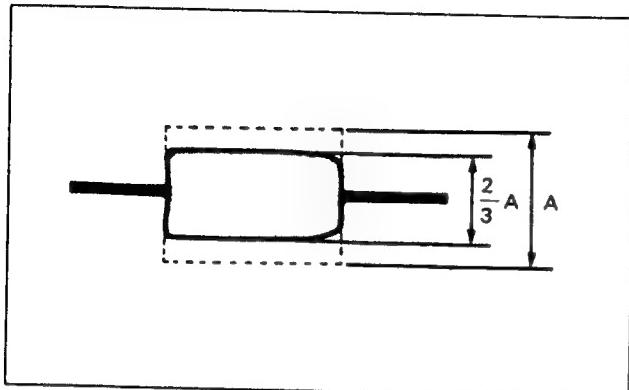

Fig. 2-39.
- 1) Run the tracking adjustment tape ; switch the SHIFT TRACK on and the RF wave form becomes about 2/3 of its maximum amplitude (see Fig.2-39).
- 4) Rotate TG4 nut 90° clockwise. Repeat step 3). Repeat steps 3) and 4) until a correct waveform is obtained. Note that the tracking waveform (Fig. 2-39) remains unchanged during these steps. If it varies, fine adjust tracking at entrance side and go to step 3) again.